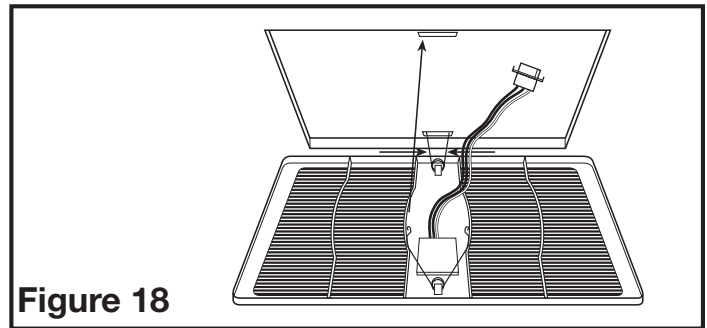

Figure 18
- 5b. **MOTION SENSING MODELS:** Install the grill by squeezing the spring furthest from the motion sensor together and installing it up into the slot furthest from the wire compartment on the fan's housing. Attach the 3 pin quick connect from the motion sensor on the grill to the harness installed in **Step 2a**. This cord will only fit one way into the receptacle. Install the other spring in place and push the grill up into position (**Figure 18**).